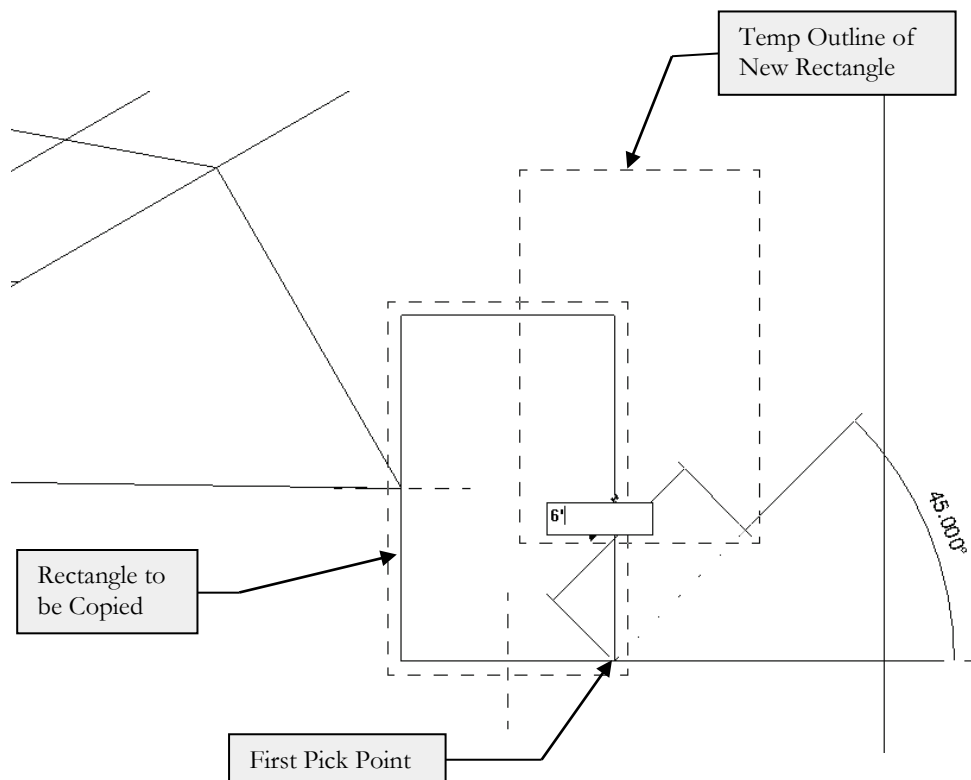

FIGURE 3-3.5 Copying rectangle; angle set visually and distance typed in
12. Move the mouse towards the upper right until 45 degrees displays, then type **6'** and then press **Enter** (Figure 3-3.5).